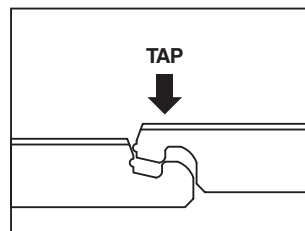

Fig. 2
- Use spacers along all walls that butt up against walls to maintain 3/8" (6.35 mm) to 1/2" (12.7 mm) expansion zone. Expansion zone is required around the perimeter of the room as well as against any fixed objects. Lay pieces from left to right. Lock the end joints by aligning the end tongue with the end groove of the previous board then tapping the joints together. (Fig 2).